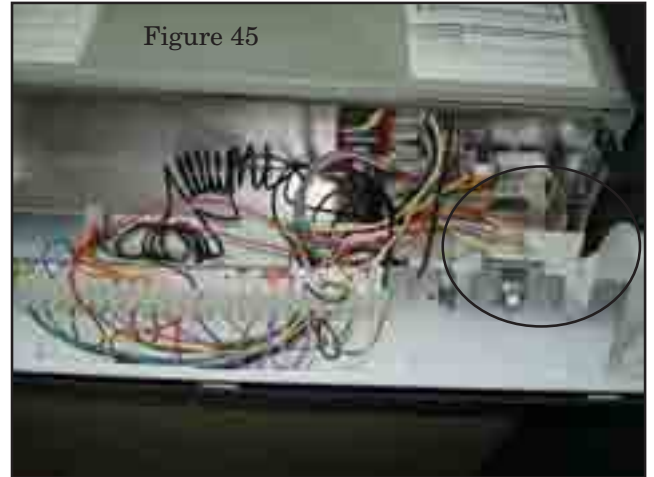

Figure 45
1. Open the control panel and locate the existing auto-reset water temperature limit. See Figures 45 and 46.